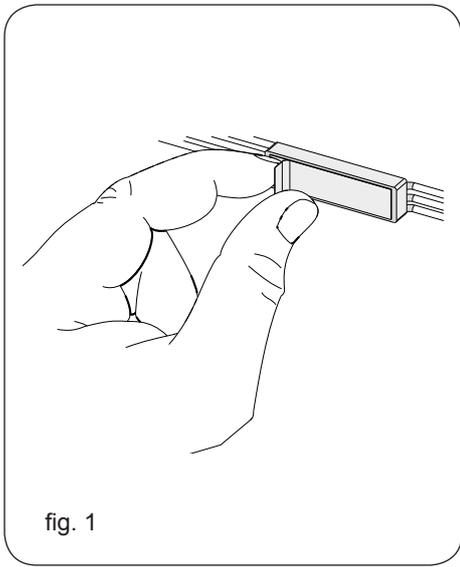

fig. 1
- 1_ remove the protective film off the LED adhesive strip (fig. 1);